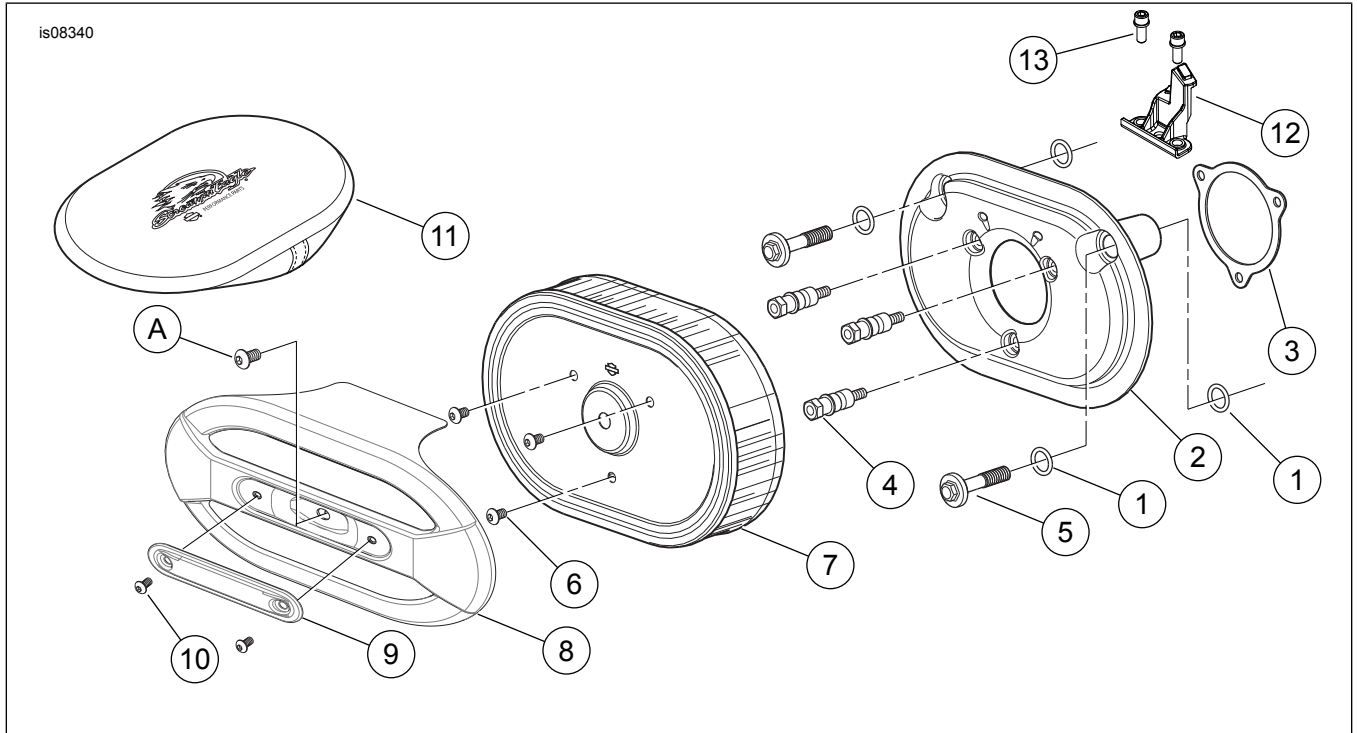

Figure 3. Service Parts: Screamin' Eagle Ventilator Elite Performance Air Cleaner Kit
See Figure 3 and Table 1.
1. See Figure 3. Install ACR clip (12) onto the bosses of the induction module where the support bracket was mounted. Secure with screws (13). Tighten screws to 3.4–4.5 N·m (30–40 **in-lbs**).
3. Install two O-rings (1) in the grooves around the breather bolt holes on the induction module side of the backplate assembly (2). Install the remaining two O-rings in the grooves in the underside of the heads of the breather bolts (5).
4. Remove the liner from the adhesive backing of the gasket (3). Carefully position the adhesive side of the gasket to the backplate. Align the equally spaced screw holes. Press the gasket firmly into place.
5. Insert new breather bolts (5) through the backplate.
8. Install the air cleaner mounting studs (4) all the way through the backplate (2) until the screw threads are captured in the induction module. Leave fasteners loose.
1. See Figure 3. Secure the air filter element (7) to the air cleaner mounting studs (4) using three bright-finish TORX® screws (6) from the kit. Tighten the screws to 6.2–6.8 N·m (55–60 **in-lbs**).
2. Apply Loctite 243 - Blue to the threads of the OE air cleaner cover screw (A). Secure the air cleaner cover (8) to the air filter element (7) with the screw. Tighten the screw to 4.1–6.8 N·m (36–60 **in-lbs**).
3. Assemble the air cleaner cover insert (9) to the air cleaner cover with two chrome screws (10). Tighten securely.
1. See Figure 3. Remove the air cleaner cover (8) and inspect the filter element (7) every 8,000 km (5000 mi), or more often under dusty conditions.